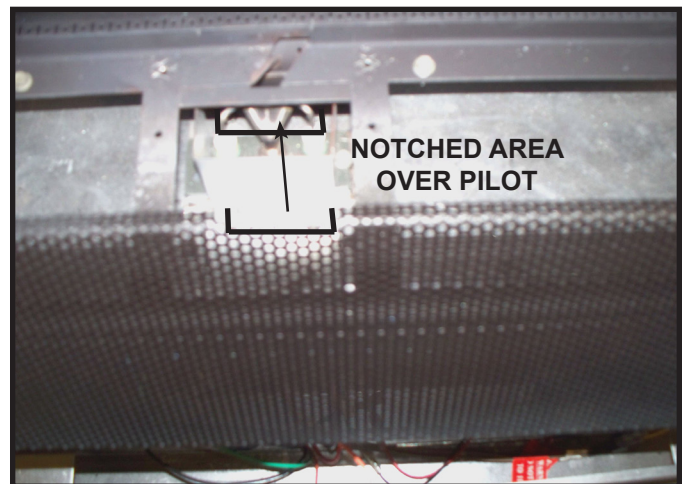

Figure 14. Installing Front Base Mesh Granite Support.
- Place rear base mesh granite support pieces between burner rail and back of appliance with the bent sides down. They will sit securely on the base pan. Ensure you are placing the mesh piece that does NOT have notches. See Figure 14.